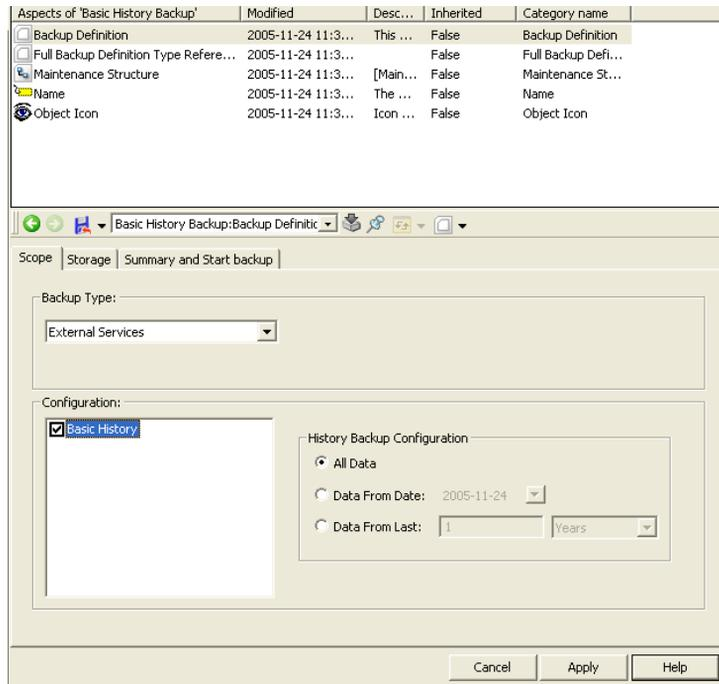

Figure 42. The Scope tab
3. Select the created object and its Backup Definition aspect. It has three tabs: Scope, Storage and Summary and Start Backup tab. See Figure 42.
4. Select **External Services** in the **Backup Type** drop-down menu. See Figure 42.